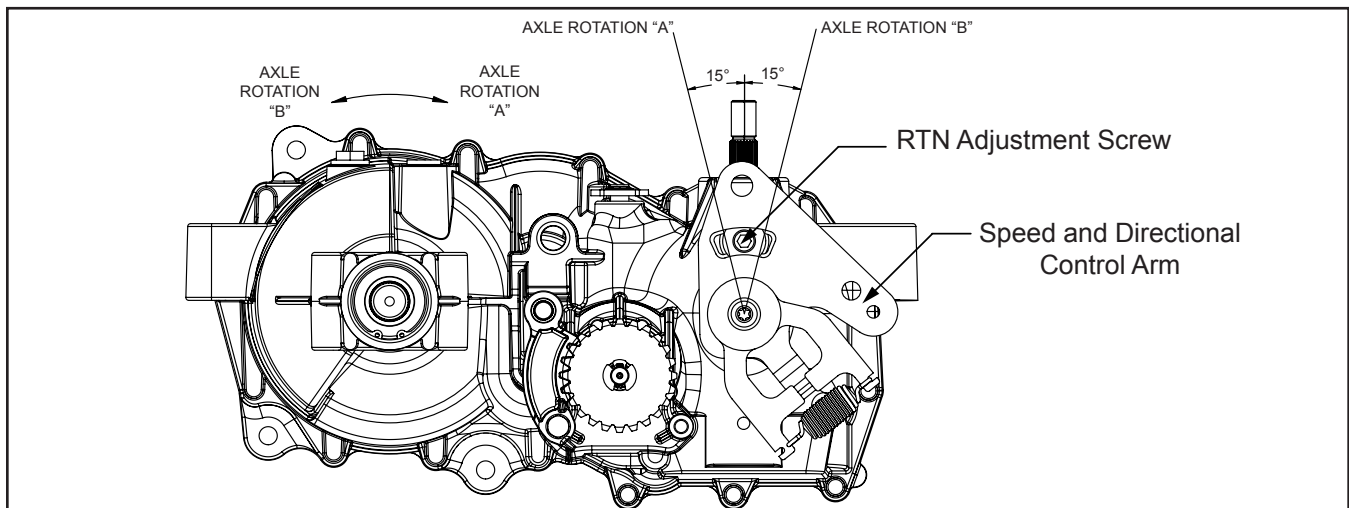

Figure 5. Return to Neutral Setting
**NOTE: It may be necessary to remove the drive wheel from the axle hub to access the linkage control and the transaxle return arm. Remove the wheel by removing the four (4) lug nuts. Do not remove the axle/hub nut.**
2. Remove the Original Equipment Manufacturer's (OEM's) control linkage at the control arm. Refer to Figure 5.
5. Stop the vehicle's engine. Reattach and adjust the OEM linkage according to Step 3 and Step 4. Stop the vehicle engine. Refer to Figure 5.
6. Note the axle directional movement. Stop the vehicle engine. Loosen the RTN adjustment screw until the control arm can be rotated. Rotate the control arm in the opposite direction of the wheel rotation in 5 degree increments. Tighten the RTN adjustment screw. Refer to table 8. Required Torque values, page 15. Recheck according to steps 3 and 4. Stop the vehicle engine. Reattach and adjust the OEM linkage according to the OEM manual. Recheck according to steps 3 and 4. Refer to Figure 5.